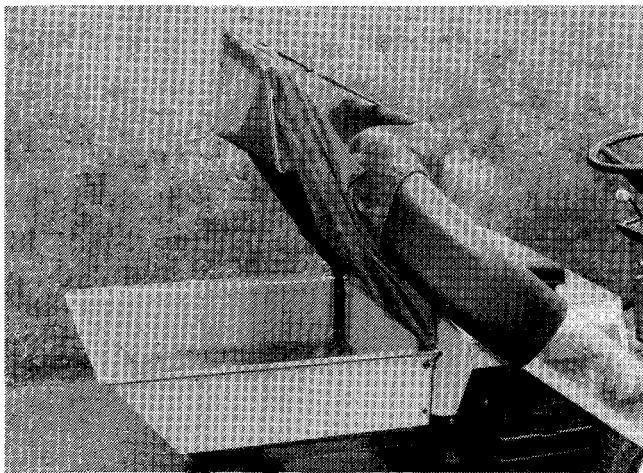

Figure 34.
2. Unhook the strap from the door lock and raise the cover assembly to the open position. Lock the cover in place by hooking the strap to the locking tab (figure 34).